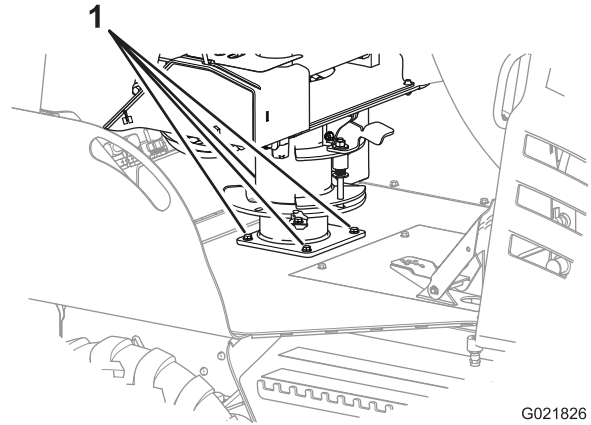

Figure 97
2. Check that the 4 bolts that secure the seat to the chassis of the machine are torqued to 5.4 to 6.8 N-m (48 to 60 in-lb); refer to Figure 97.